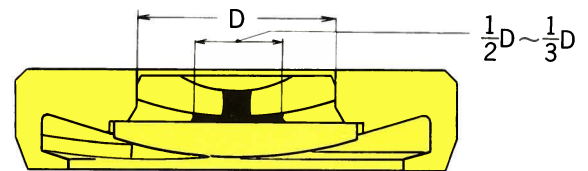

Fig. 2
Apply oil as shown in Fig. 2 after setting the cap jewel and the spring. Oil should be spread over from one-half to one-third of the hole jewel diameter (D).